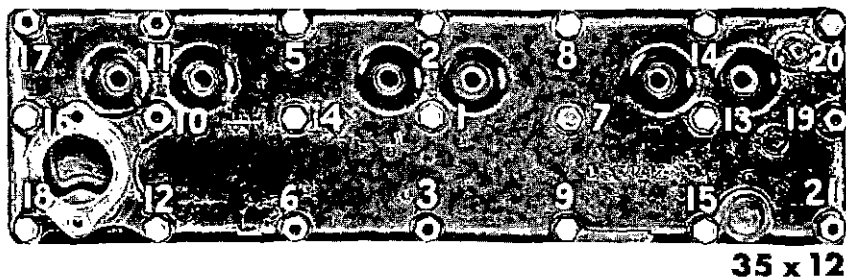

Figure 30 — Cylinder Head Tightening Sequence
**ATTACHING PARTS.** See that all nuts, bolts and screws that attach parts are secure. Tighten cylinder head nuts with torque wrench, 52 to 57 foot-pounds, in sequence as shown in Figure 30.